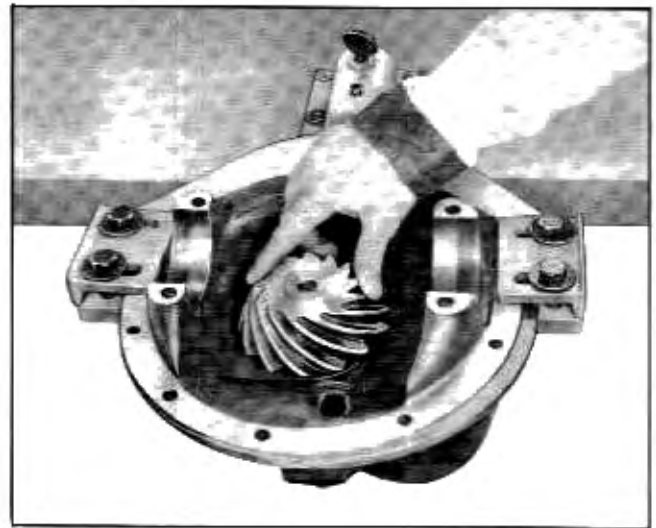

Fig. 4-29 Checking Rear Bearing for Roughness
12. Without removing rear bearing from pinion, wash inner race and roller assembly in cleaning fluid and examine for failure. Clean rear bearing outer race and examine visually for failure. Place drive pinion, with rear bearing inner race and roller assembly installed, in outer bearing race in carrier; rotate pinion while pressing on bearing (Fig. 4-29). If bearing turns smoothly and has no visual defects, do not remove outer race from carrier.